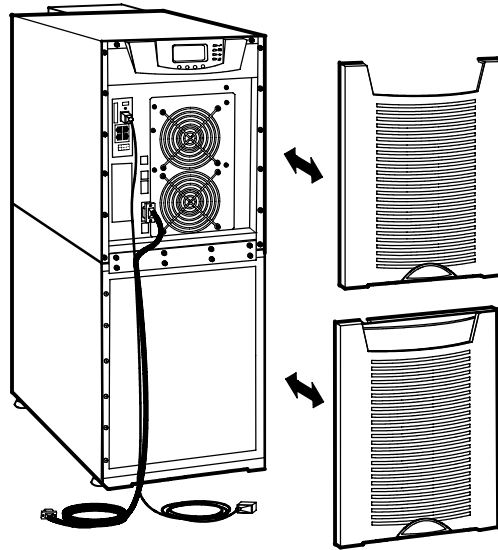

Figure 37. Reinstalling the Front Covers
6. Reinstall the front covers, starting with the bottom cabinet (see Figure 37).